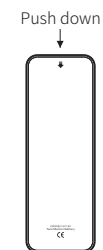

Figure 14
1. Turn the remote over and slide the battery cover open (Figure 14).